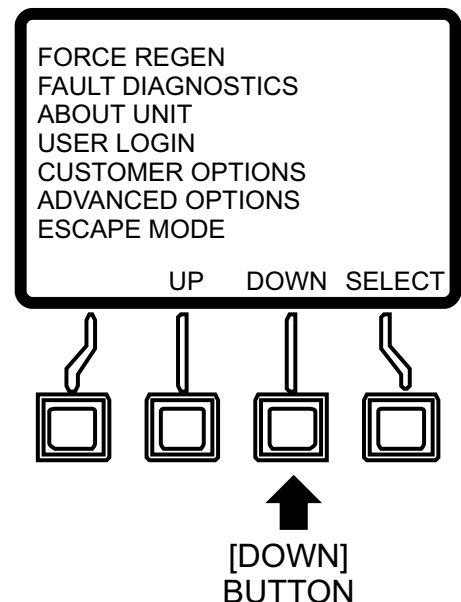

Figure 80. Main Menu Down Button)
4. Press the [DOWN] button (Figure 80) to scroll to the Escape Mode item.